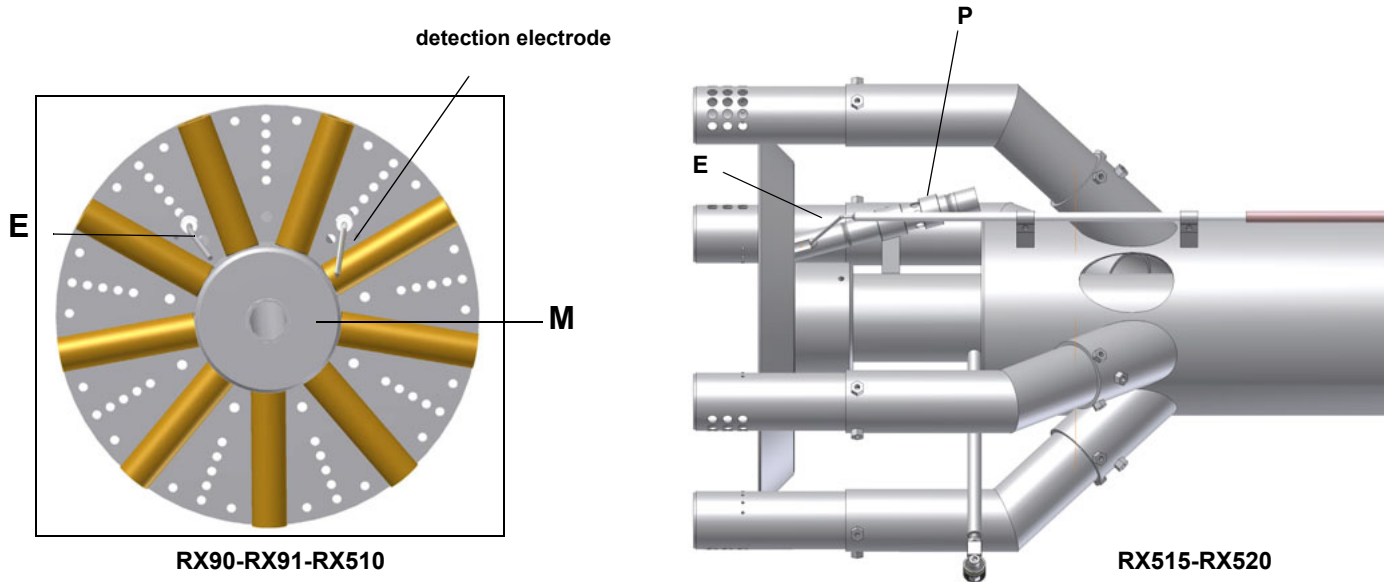

Fig. 31
- **RX515-RX520:** the electrodes **E** are placed between the 3rd and the 4th notch of the pilot nozzle **U** and must match the values (in mm) quoted on Fig. 31.